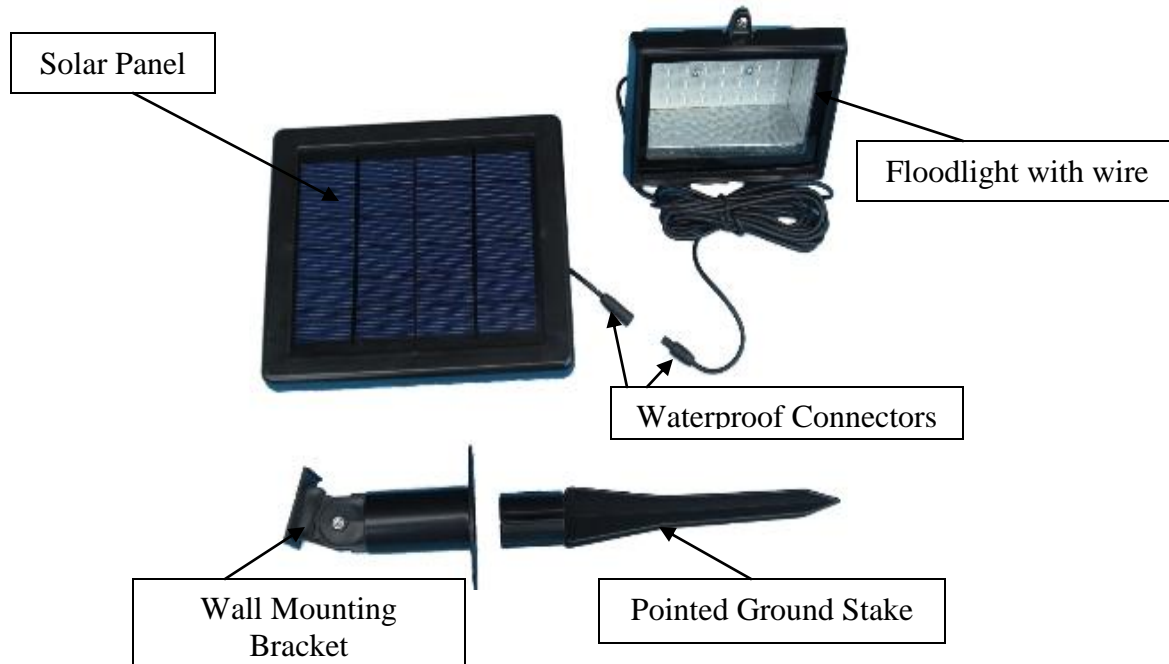
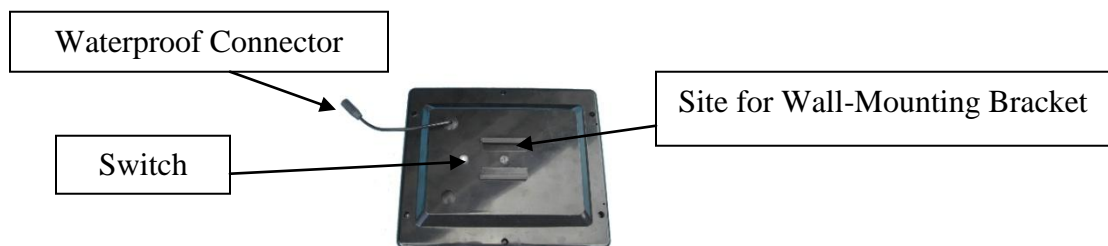

Figure 1: Components of MGG LED Lighting System
Figure 2: Reverse-side of Solar Panel
- The Solar Panel can be wall-mounted using the Wall-Mounting Bracket, as shown in Figure 1, which slides onto the reverse side of the Solar Panel, see Figure 2. Alternatively, it can be positioned in the ground by adding the Pointed Ground Stake to the Wall-Mounting Bracket. This can then be pushed into soft earth until it is firmly in place.
Once fully installed, attach the waterproof connector of the Solar Panel to that of the Floodlight – see Figure 1. Press the switch on the reverse of the Solar Panel – see Figure 2. The system is now functioning.